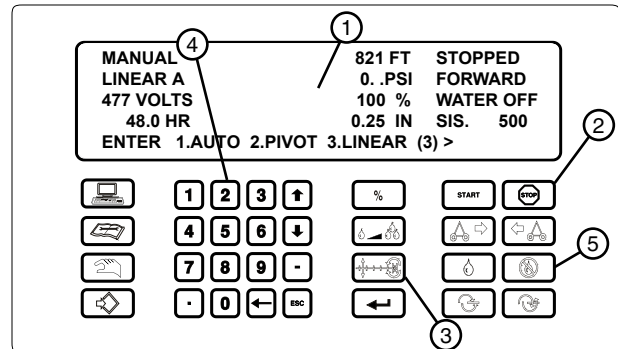

Figure 57-1 1. Control Panel Display. 4. Numeric Key.
- At the control panel, press . See figure 57-1.
- Press  and **2** to change the machine to the pivot mode. See figure 57-1.